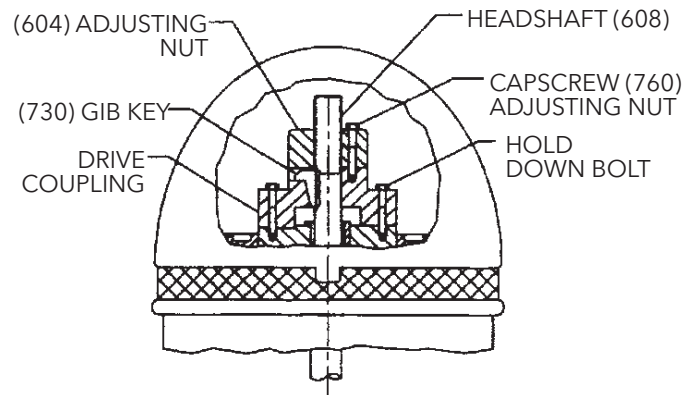
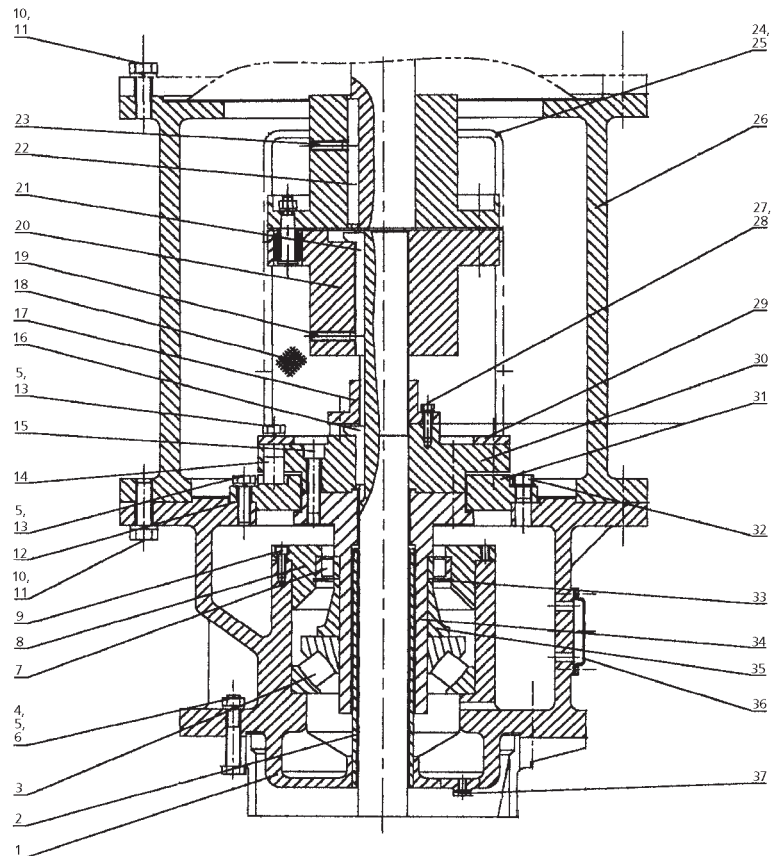

Figure 12
Figure 19 - Oil Lubricated Thrust Pot
1. The driving mechanism of all hollow shaft driver is shown on Figure 12. The head shaft (608) extends up through the quill or hollow shaft of the driver and is held in place by an adjusting nut (604), which not only carries all the static and hydraulic thrust of the impellers and shaft, but also provides the adjustment for the impeller clearances. The head shaft is connected to top shaft (or stub shaft) by a threaded coupling or a rigid flange coupling.
6. After lowering and orienting the driver as explained above, remove the drive coupling and the hold down bolts (See Figure 12). **Be sure to mark the location of the coupling before removing it.**
If the unit is supplied with a thrust pot (see Figure 19), the thrust pot should be installed on top of the discharge head or motor stand before installing the driver. The driving mechanism of the thrust pot assembly is similar to the hollow shaft motor. (See Figure 12)
OIL LUBRICATED THRUST POT (SEE FIGURE 19)